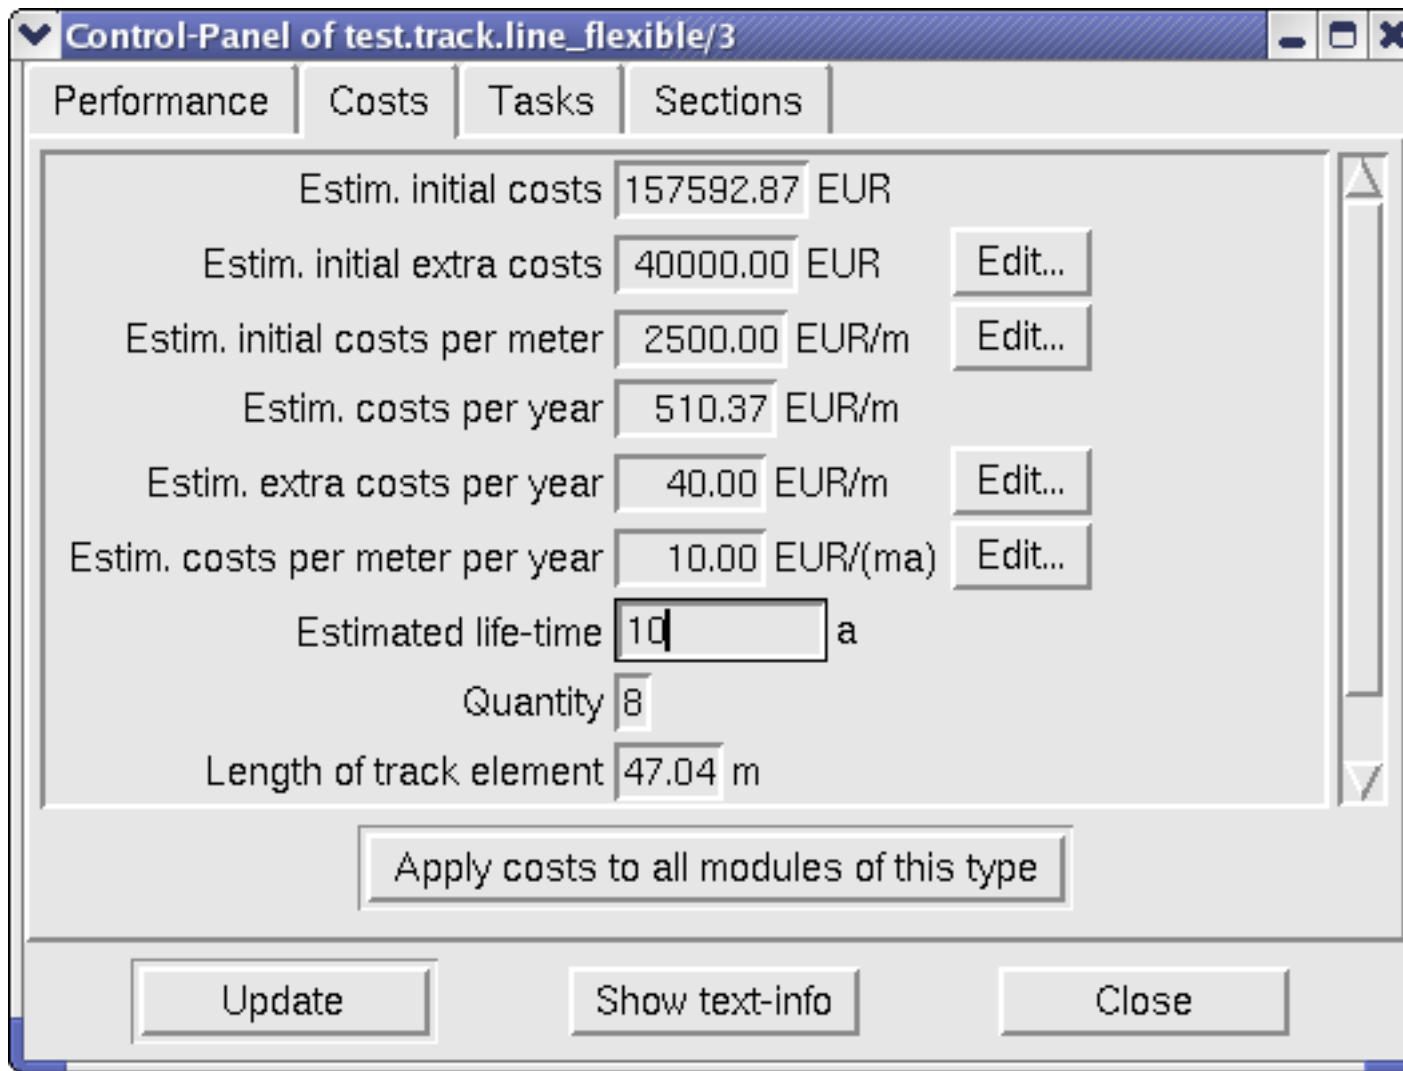

Figure 8: The costs page of the control-panel of a track element.
- Click on the **Costs** page of the control-panel, as shown in Fig. 8. You see a list of costs plus life-time and some other relevant quantities: